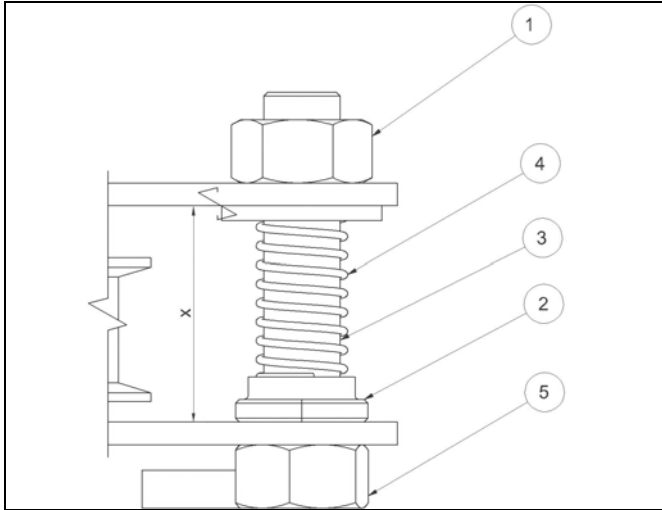

Fig. 49
- Measure the distance (x) of the clutch brake disk (Fig. 49) and note it (approx. 28 mm)
- Tighten the adjusting nut 1 to distance x (Fig. 49)